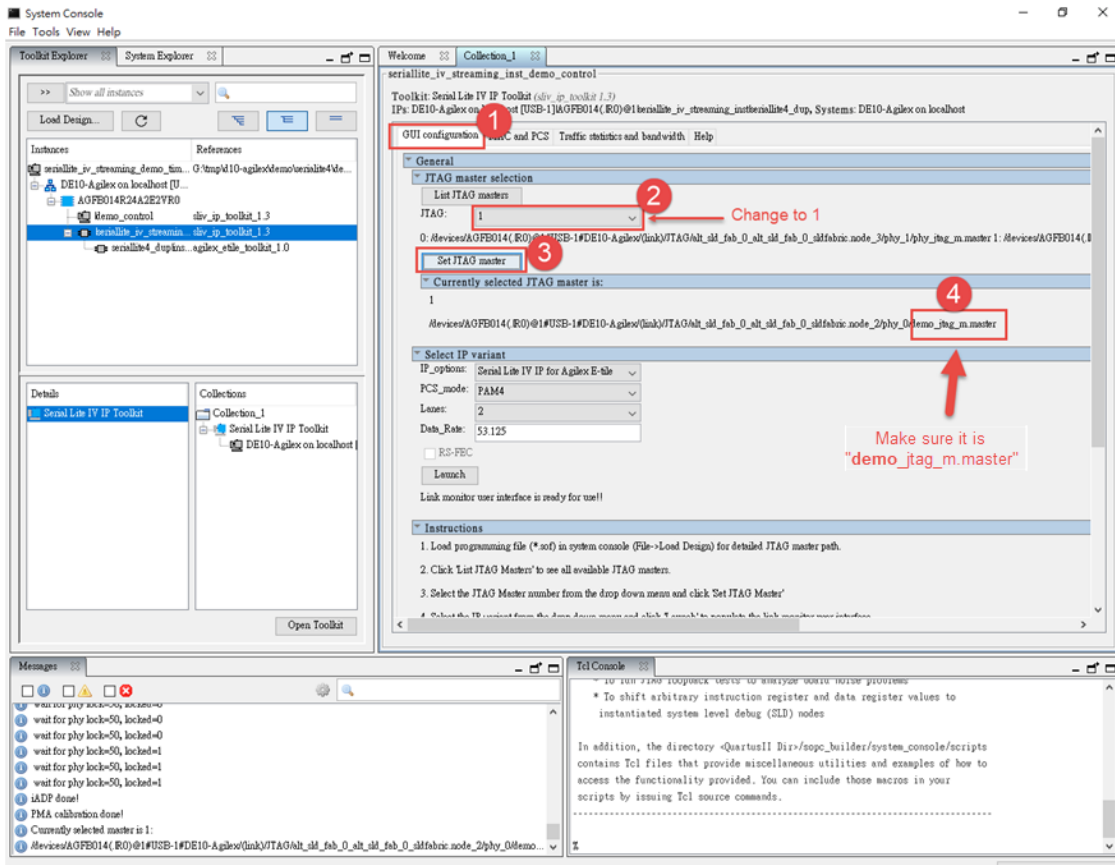

Figure 9-23 Setup Demo JTAG Master
- Please refer to the **Figure 9-23**, choose **GUI Configuration** tab and follow steps 1~4 to set JTAG master for demonstration.